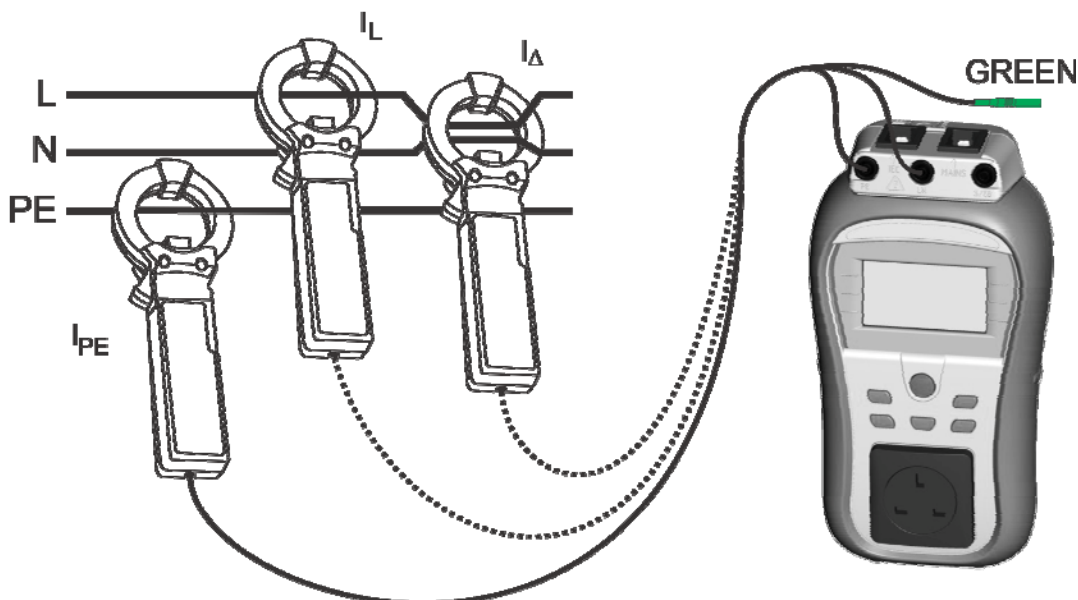

Figure 5.44: Measurement of clamp current
- ▶ Connect the current clamp to the instrument (see **Figure 5.44**).